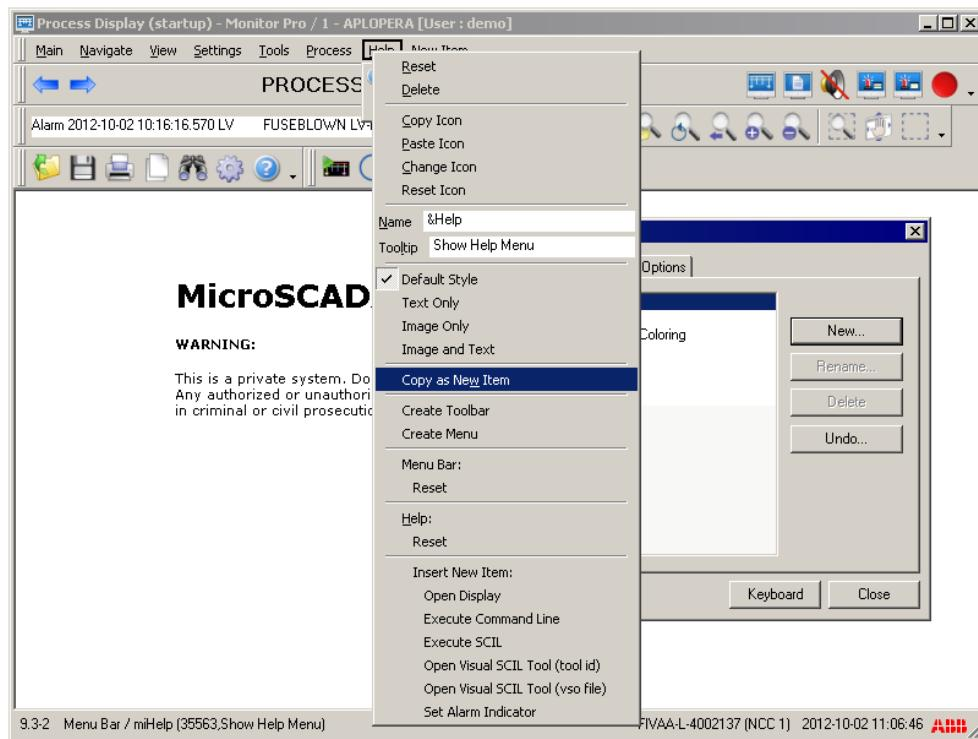

Figure 196: Creating a new menu by copying an existing menu
3. Select **Copy as New Item**, see Figure 196.